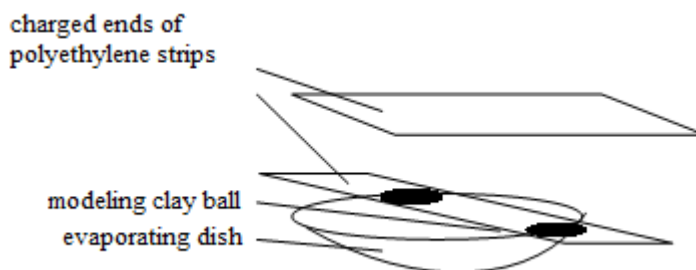

Fig.1 Set-up for demo
1. Place two small balls of modelling clay on opposite edges of an evaporating dish (Fig. 1).